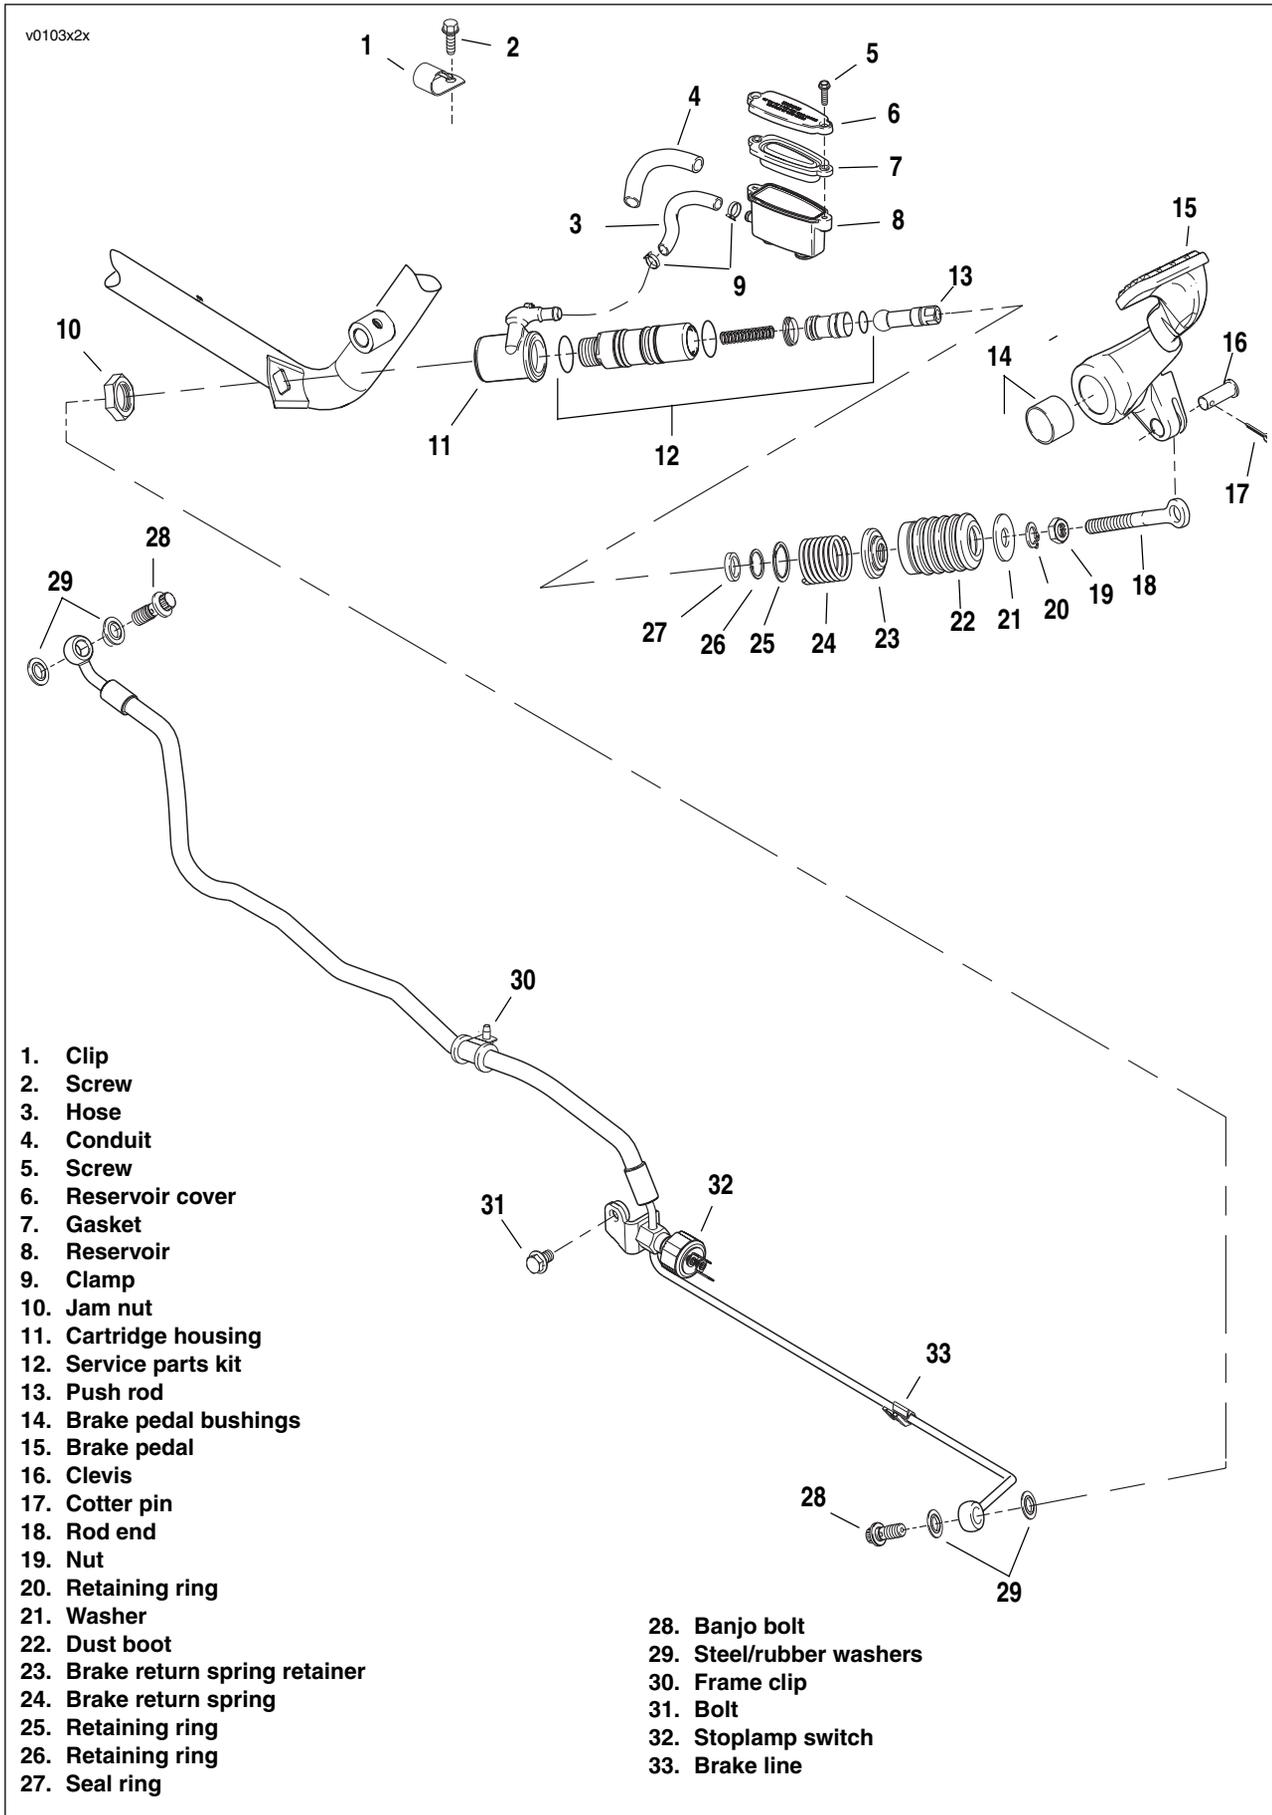
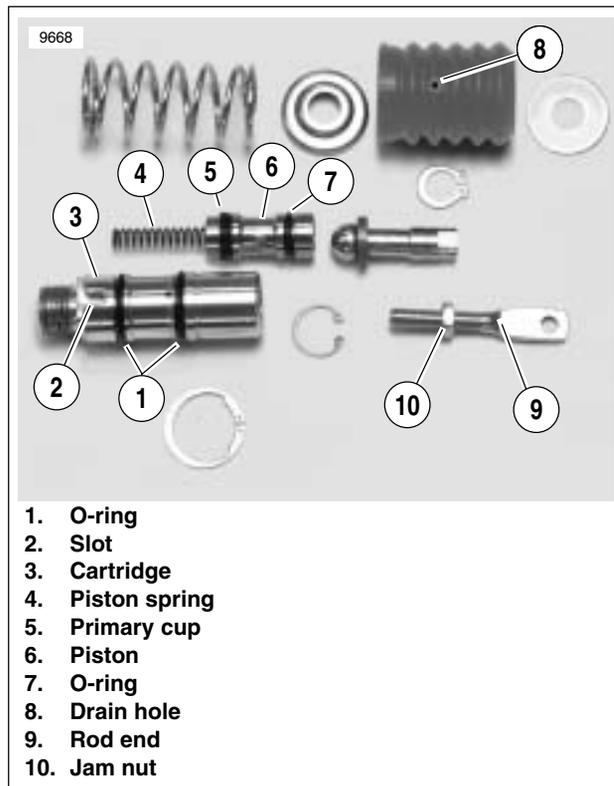

Figure 2-51. Rear Brake Master Cylinder/Reservoir
Figure 2-53. Master Cylinder Components
1. See Figure 2-51. Remove the reservoir cover (6) and gasket (7).
2. Over suitable container, separate and drain the reservoir (8) and hose (3).
3. Using HOSE CLAMP PLIERS (HD-41137), remove the hose clamps (9) from the remote reservoir hose (3).
13. See Figure 2-51. Remove pushrod (13) and seal ring (27).
1. See Figure 2-53. Lubricate **new** O-rings (1) with D.O.T. 5 SILICONE BRAKE FLUID and carefully install in grooves on **new** cartridge (3).
2. Install **new** primary cup (5) with the flared end toward the threaded end of the cartridge and **new** O-ring (7) on **new** piston (6).
3. Slide **new** spring (4) into piston (6) and slide into cartridge (3).
5. See Figure 2-51. Insert ball end of push rod (13) with seal ring (27) around rod into piston cup. Pushing down to compress spring, install small retaining ring (26) in groove of cartridge body bore. Verify that retaining ring is completely seated in groove capturing seal ring and that push rod rotates freely.
6. Install large retaining ring (25) in groove closest to push rod end of cartridge body.
7. Insert cartridge into cartridge housing (11).
8. See Figure 2-53. Verify that tab inside of housing mates to slot (2) on threaded end of cartridge (3).
9. See Figure 2-51. Install brake return spring (24), brake return spring retainer (23), boot (22), and large washer (21) over push rod (13).
10. Push down on large flat washer (21) to compress brake return spring. While holding the spring in a compressed state with brake return spring (24) seated on large retaining ring (25), install retaining ring (20) on push rod.
11. See Figure 2-53. Rotate boot so that drain hole (8) is at bottom. Bottom is side opposite tab in housing and mating slot in cartridge. Pull down dust boot to seat over lip on housing.
12. See Figure 2-51. With jam nut (19) in original location, thread in brake rod (18) until jam nut bottoms on the push rod (13).
2. Fit square on bottom of master cylinder cartridge housing (2) into square hole of mounting bracket.
3. See Figure 2-51. Install the clevis pin (16) through the brake pedal (15) clevis and master cylinder brake rod (18).
4. Cover the face of clevis pin (16) and clevis with cardboard. Holding the brake pedal firmly, tap on a rod to seat shoulder of clevis pin into clevis. Install **new** cotter pin (17).
5. Apply LOCTITE® 243 (blue) to threads of jam nut (10). Thread jam nut (10) on cartridge housing and tighten to 41-54 Nm (30-40 ft-lbs).